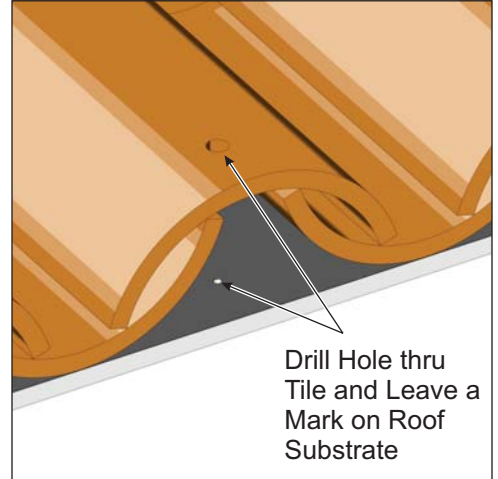

Figure 2: Drill Hole & Mark Location
- A. Drill a 9/16” hole thru the tile where the Roof Rod will be installed. Allow the drill bit to lightly touch the roof substrate to leave a mark. (See Figure 2)